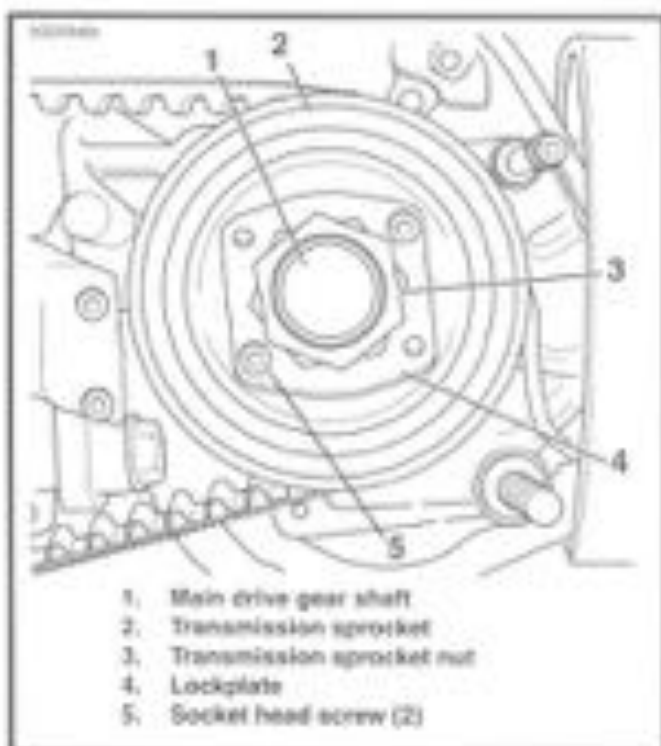

Figure 6-19. Transmission Sprocket
4. See Figure 6-19. Place transmission in first gear. Remove two socket head screws (1) and lockplate (4).
7. See Figure 6-19. Remove secondary drive belt from transmission sprocket (2). Remove transmission sprocket from main drive gear shaft (1).